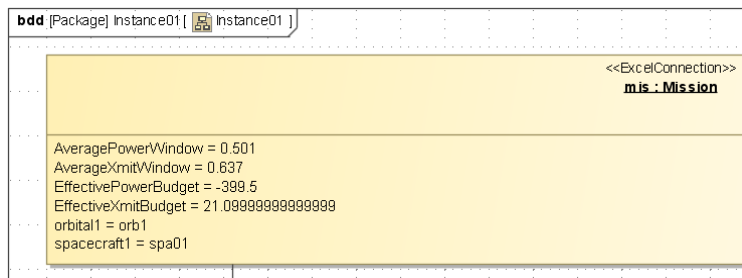

Figure 6.19 Browser before execution.
- d. Click Update to SysML. Mis:Mission slot values appear as in Figure 6.19.